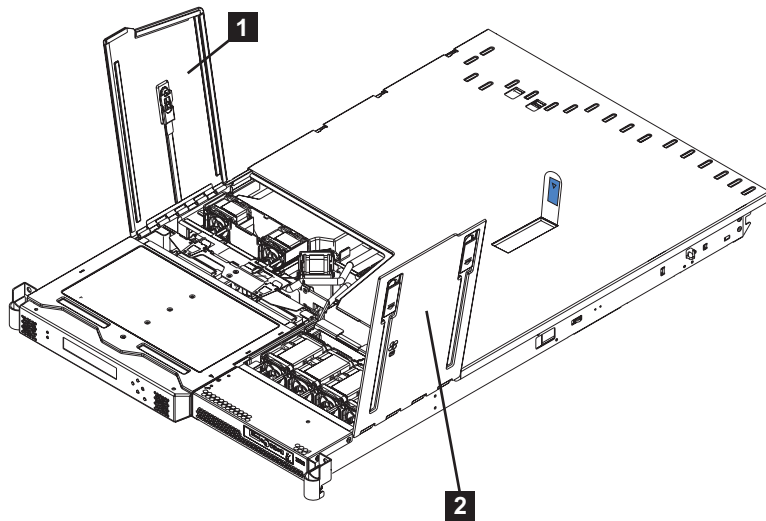

Figure 94. The SAN Volume Controller 2145-8F2 or SAN Volume Controller 2145-8F4 with fan doors open
4. Close the fan door **1** and replace the node in the rack. See Figure 94.